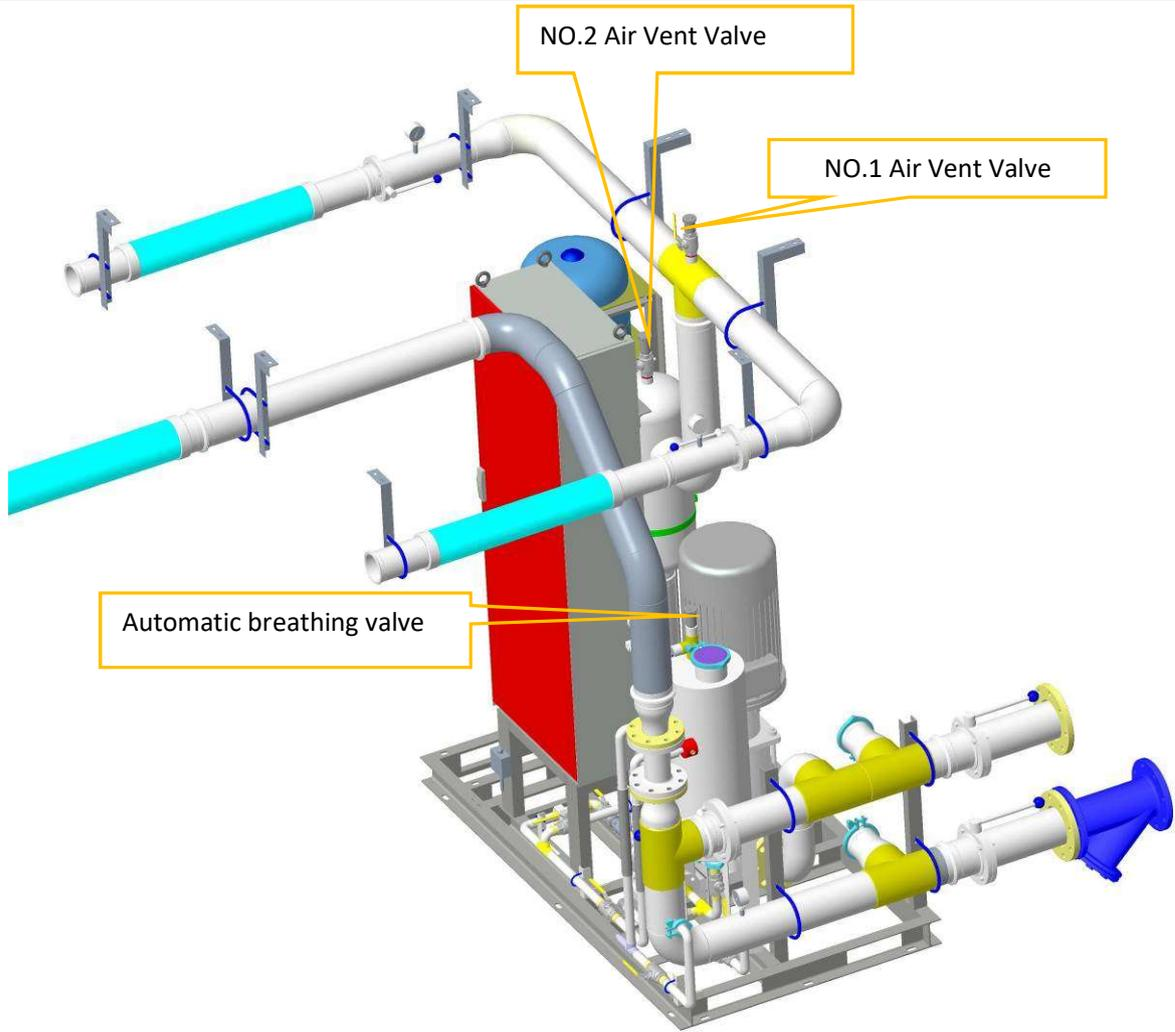

Figure 5-3-1 Internal container - automatic exhaust valve
- 3) Check if the automatic exhaust valves or the ball valves on the internal and external pipes of the container are opened. (See Figures 5-3-1 through 5-3-3);